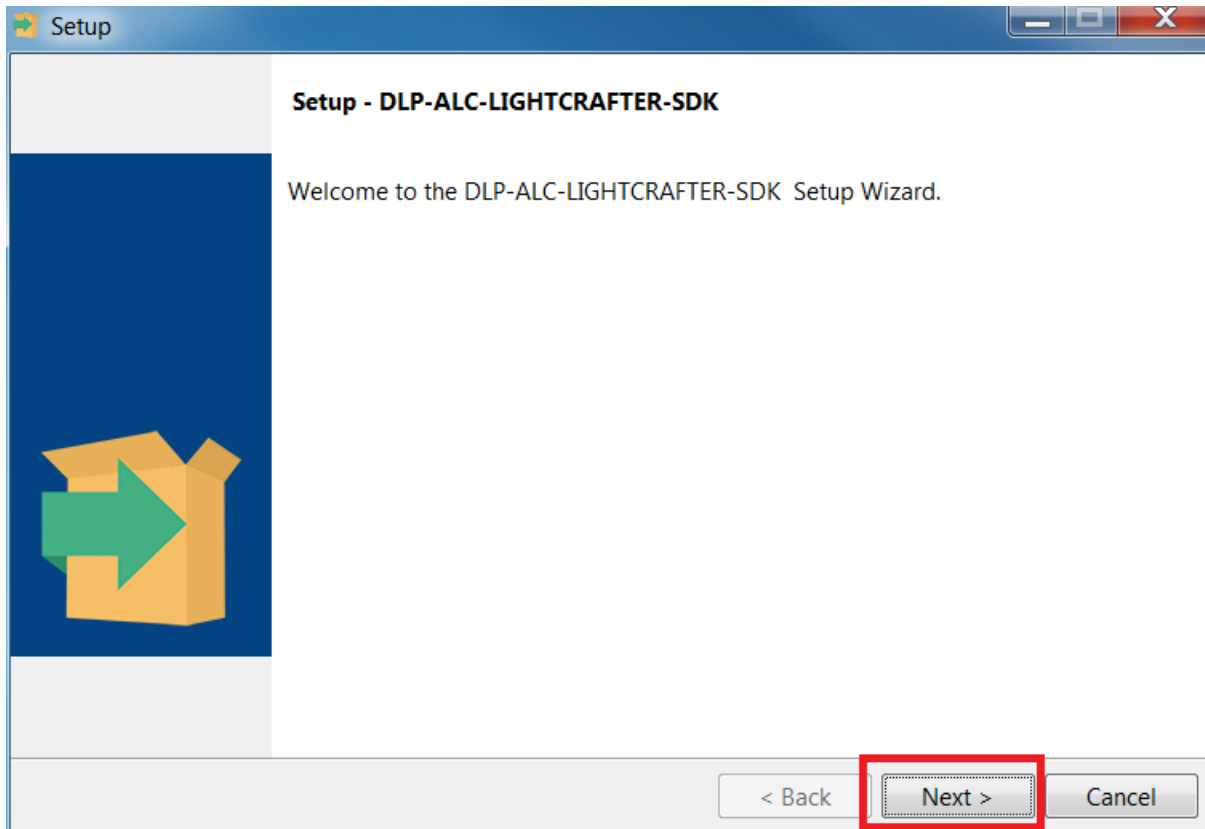

Figure 39. DLP ALC SDK Installer Setup
3. The installer will open and present a set-up screen. Click "Next" as shown in Figure 39.